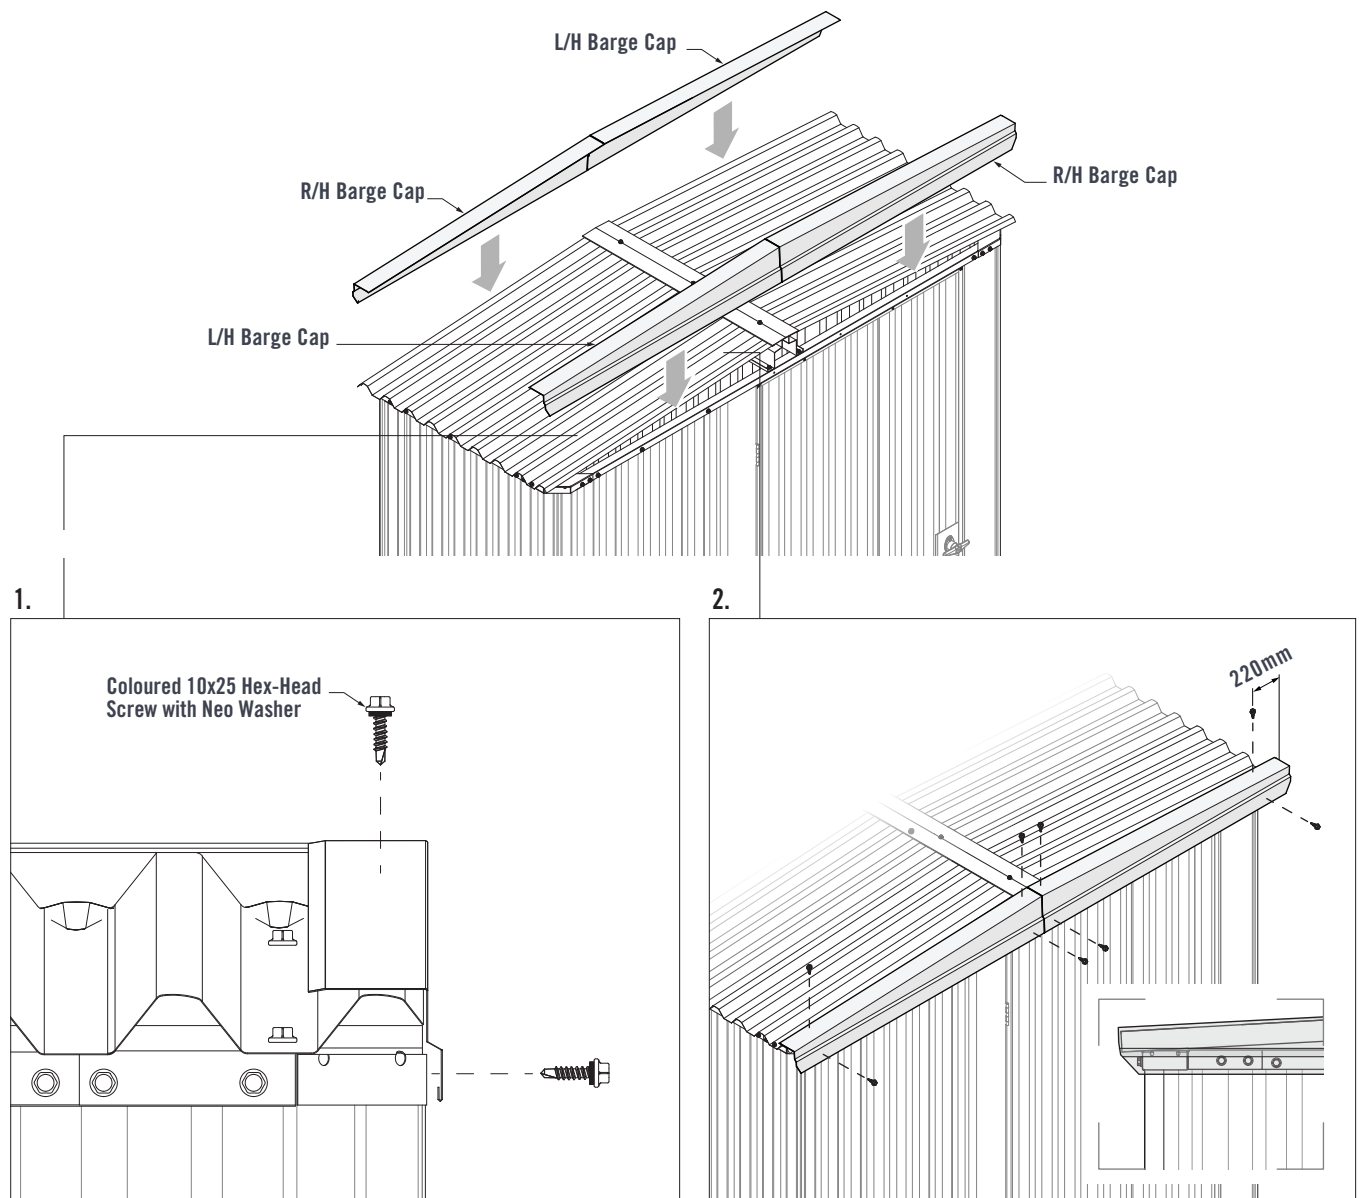

FIGURE 7.5
1. Place the L/H Barge Cap over the Roof Sheet at the front of the shed. The front face of the Barge Cap should fit up against the Roof Sheets (Figure 7.5).
2. The ends of the Barge Cap Should align with the end of the Roof Sheet. Fasten two coloured 10x25 Hex-Head Screws with Neo Washers through the front face of the Barge Cap and into the Wall Channel. Fasten two coloured 10x25 Hex-Head Screws with Neo Washers through the top of the Barge Cap and into the crests of the Roof Sheets (Figure 7.5).
Install the R/H Barge Cap in the same manner on the front right side of the shed. Install the remaining L/H and R/H Barge Caps to the rear of the shed in the same manner (Figure 7.5).